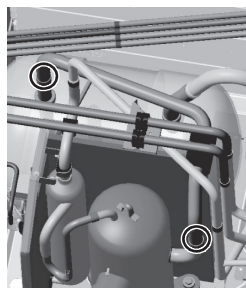

Figure 10
- (5) Remove the braise at the three areas on the accumulator outlet (suction) pipe. (See Figure 10.)